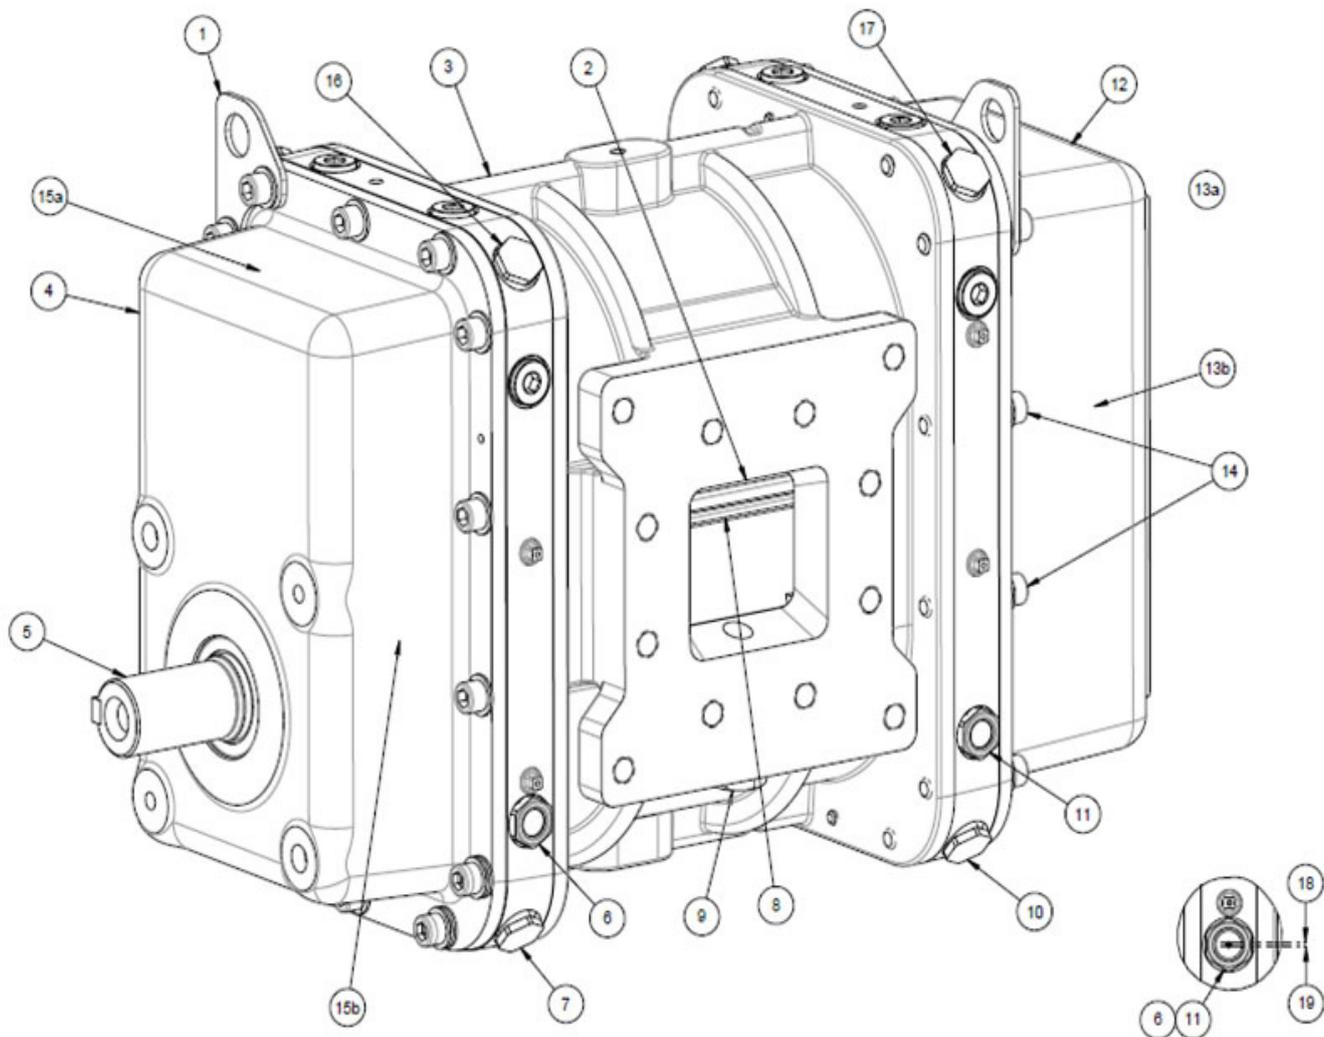

Figure 1 – Components of the TS.XL blower
The identification and rating plate (Figure 1, item 13) provides specific details about the blower, such as its Item Number and so on.
Refer to Figure 1. The TS.XL blowers are positive displacement blowers, which incorporate two three-lobe rotors (8). One of the rotors is driven by the drive shaft (5). The other rotor is maintained in the correct phase relation by timing gears. The timing gears and the bearings on the rotors and drive shaft are lubricated by oil in the drive end cover (4) and non-drive end cover (12).